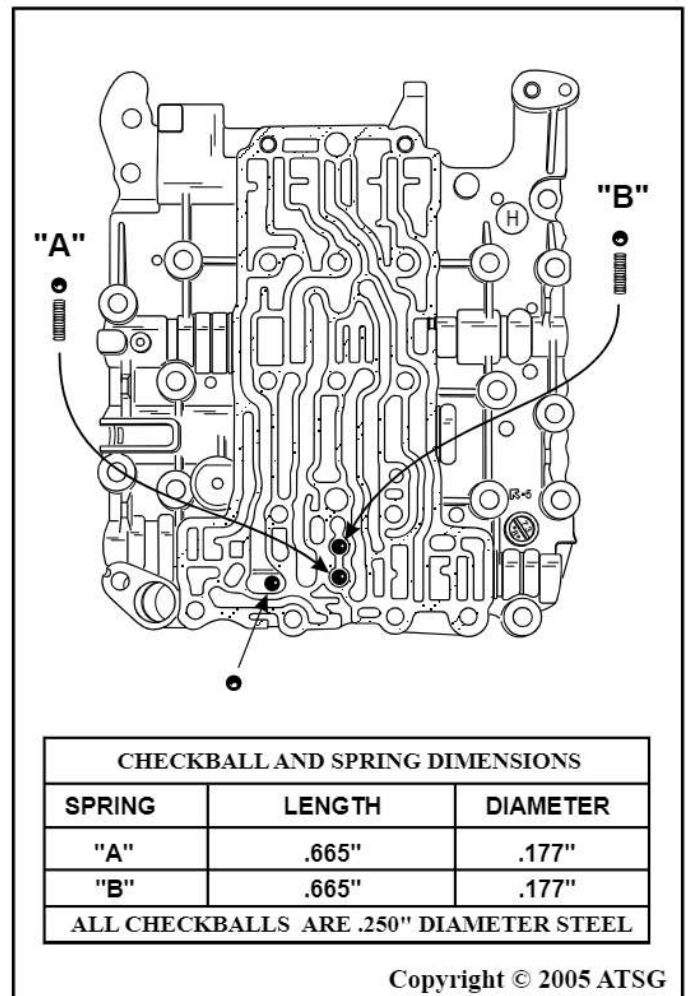

Figure 148
25. Turn the valve body over with the spacer plate facing down, as shown in Figure 148.
26. Install the "A" check ball and spring with the spring going in first, as shown in Figure 148.
27. Install the "B" check ball and spring with the spring going in first, as shown in Figure 148.
28. Install the last check ball into the bath tub, as shown in Figure 148.
Note: *Spring and check ball dimensions are shown in Figure 148.*